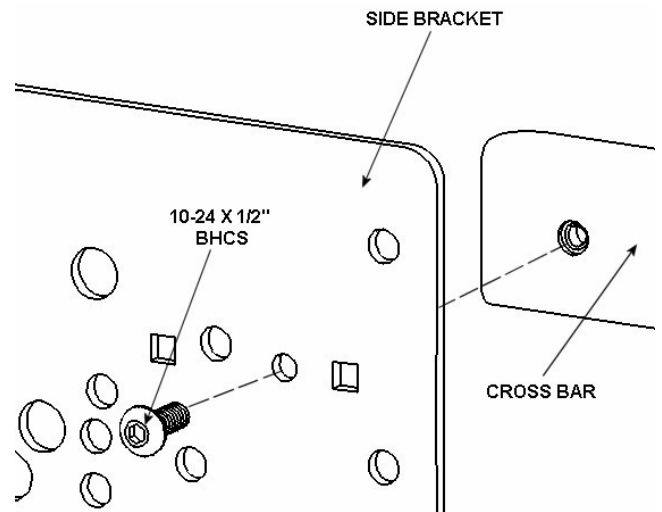
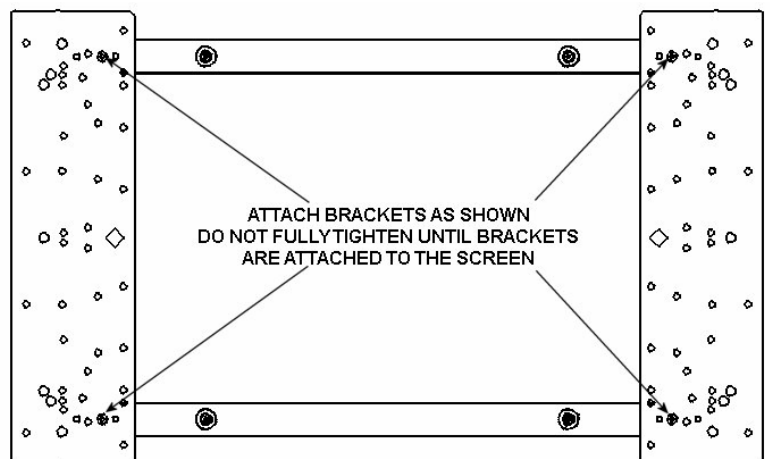

Figure 3. Cross Bar Attachment Hardware
Figure 4. Cross Bar Attachment Locations
3. Using the mounting hardware in the parts bag labeled A, attach the side brackets to the cross bars (see Figure 3 and Figure 4).